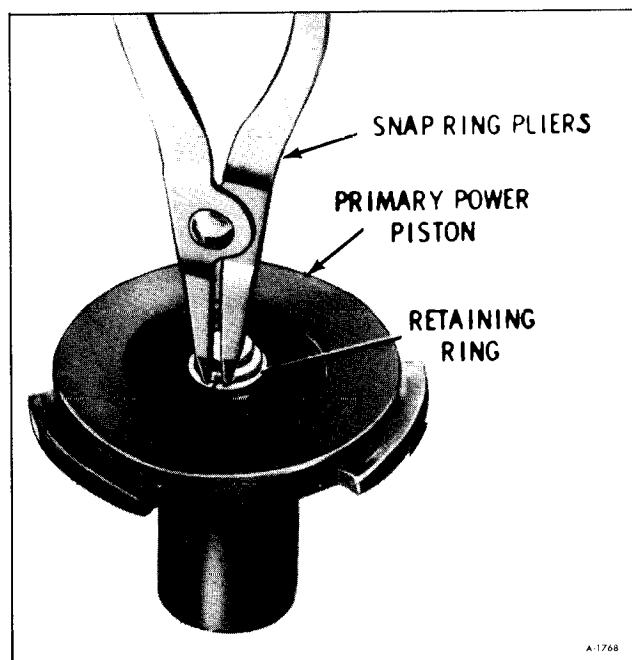

Figure 44—Removing Snap Ring from Air Valve
24. Remove the snap ring from the air valve. (figure 44)